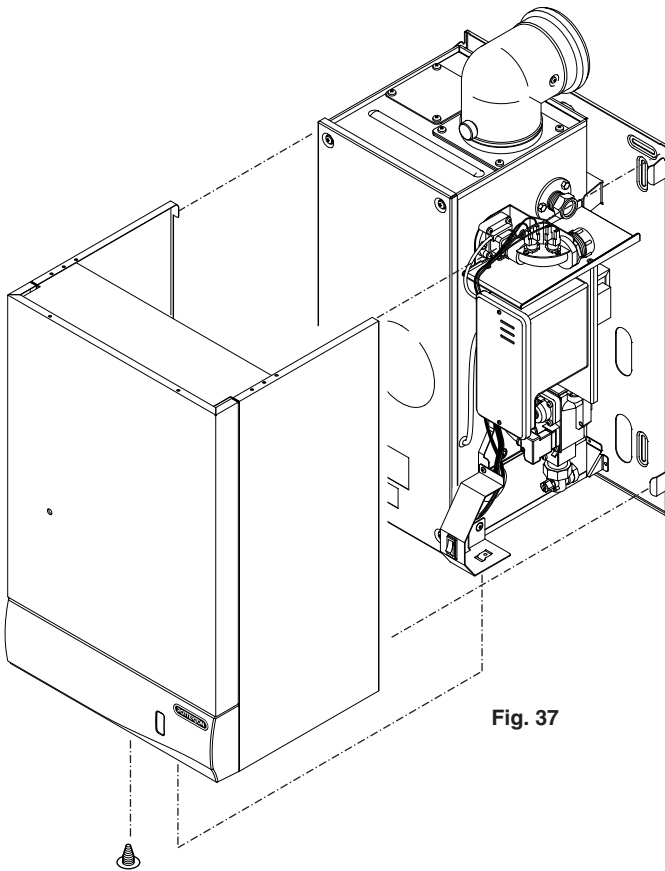

Fig. 37
1. Position the outercase over the boiler engaging the lugs in the side flanges over the hooks on the wall plate (Fig. 37).
2. Carefully centralise the On/Off switch through the cut-out on the fascia. Using the screw supplied in the kit, secure the outercase from the bottom (Fig. 37).